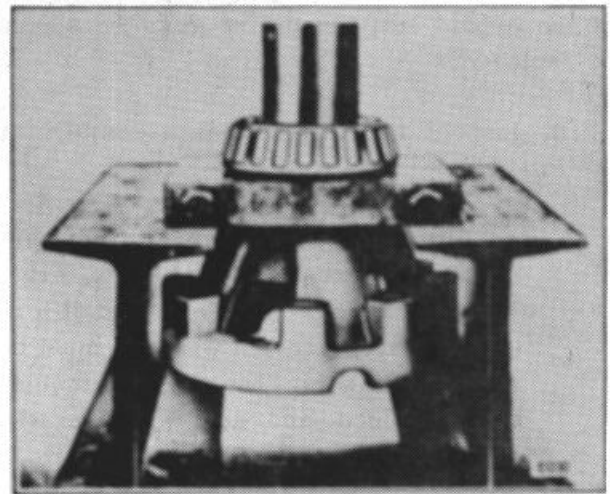

Figure 15.
11. If necessary to replace differential bearings, place case in press as illustrated in Figure 15 and press bearing from journal.